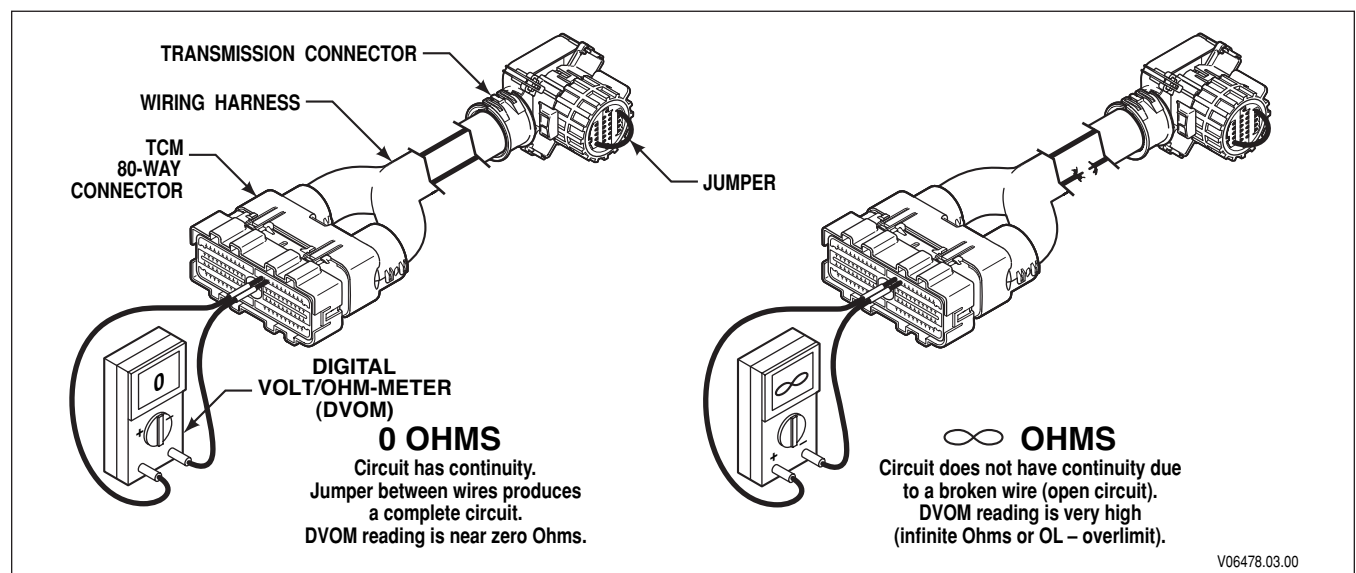

Figure 4-1. Checking Continuity (External Harness)
- a. Check continuity of wires 111 and 155 by performing the following (refer to Figure 4-1):
- (1) Disconnect the 80-way connector from the TCM and disconnect the harness from the transmission main connector. At one end of the harness, using jumper wire kit J 39197-A and the body connector probes in J 39775-CP, connect pin 14 and 15 to each other, being careful not to distort the terminals. Jumping the wires together creates a circuit between wires 111 and 155.